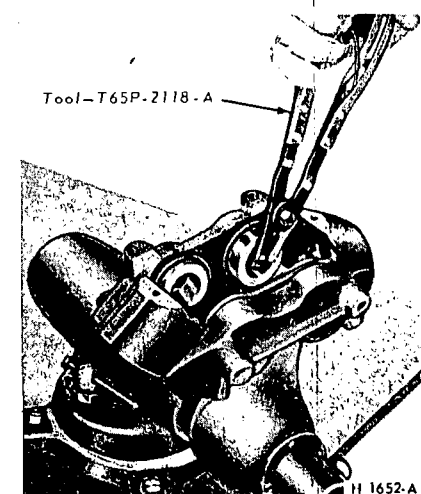

FIG. 45—Removing or Installing Pistons—Lincoln Continental
7. Clamp the caliper in a vise and secure it by the mounting flanges on the inboard housing (Fig. 45).
8. Remove the four pistons from the cylinder bores with the special tool shown in Fig. 45. To prevent cocking with consequent damage to the piston or bore, rotate the piston with the tool while pulling it outward at the same time. **Be careful to avoid scratching or damaging the outside diameter surface or dust boot retaining groove of the piston. Such damage causes poor sealing.**
5. Coat the outside diameter of the pistons with brake fluid and install them in the cylinder bores so that the open end of the piston and the boot retaining groove face out of the bore. To avoid cocking, locate the piston squarely in the bore and apply a slow steady pressure. If a piston will not easily go all the way into the bore, remove it and thoroughly inspect the cylinder bore, the piston seal and the installation of the seal. If the piston still will not go in with bore in good condition and the piston seal properly installed, use the tool shown in Fig. 45. Rotate the piston with the tool while pushing it inward at the same time.